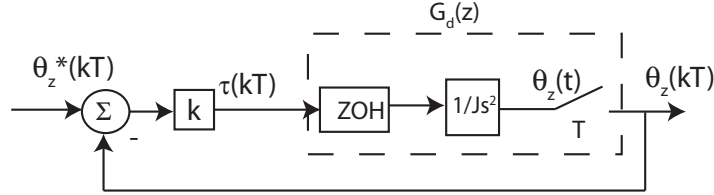

Figure 6: Discretized undamped double integrator model of the wheel/motor system.
1. How do the oscillation frequencies  $f_{spring}^{sat}$  and  $f_{spring}^{exp}$  recorded in part 7 of the In-Lab compare with the theoretical value  $f_{spring}$  computed in part 9 of the Pre-Lab? Explain. Use the undamped double integrator model of the wheel and the sample time  $T$  you measured to compute the magnitude of the expected closed loop pole locations (see Figure 6), assuming that  $T$  is a constant.